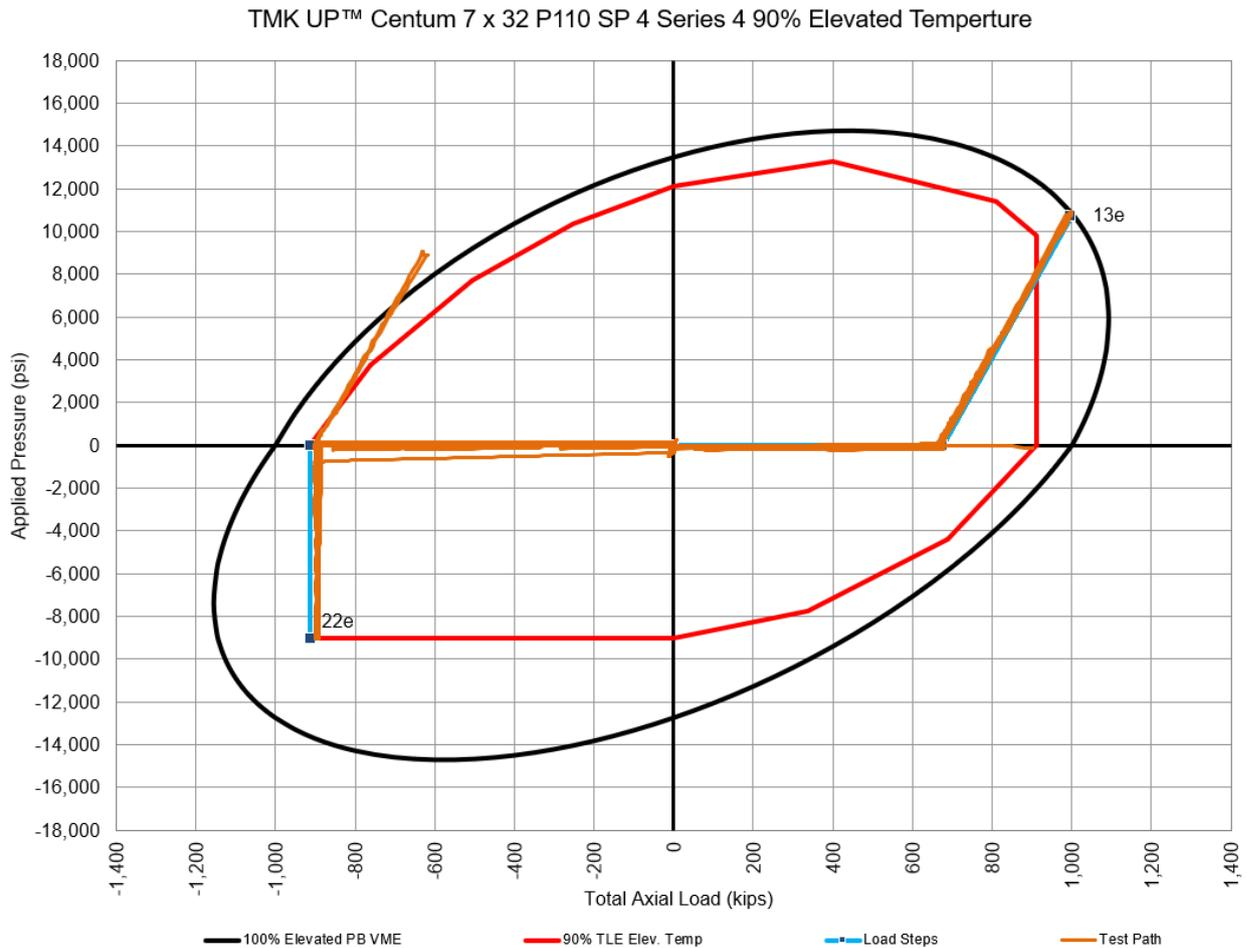

Figure 1-55: Specimen 4 Series A 90% Test Path Overload
- 1) During 90% elevated series A testing of SP4 the specimen was briefly overloaded. Load step 134 the operator added roughly 9000 psi of internal pressure instead of external pressure. The induced combined loading took the sample outside of the TLE and VME as is shown in Figure 1-55. It was decided that the damage was minimal, and subsequent SP4 testing was completed successfully.